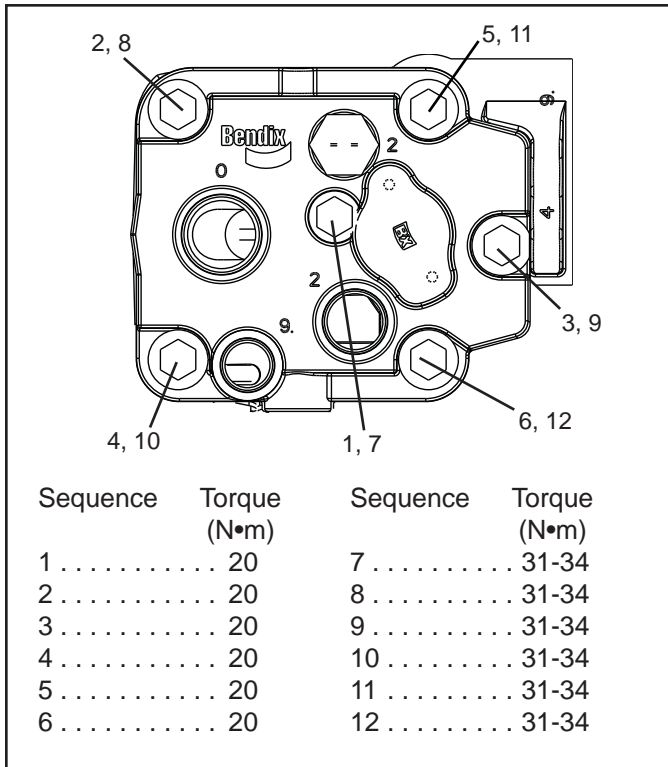

FIGURE 11 - CLOSED ROOM COMPRESSOR HEAD BOLT TORQUE SEQUENCE
6. Install the six hex head cylinder head bolts and washers and snug them (finger tight), then torque the bolts in the sequence specified in Figure 11. Note: A light film of oil should be applied to the thread of these bolts prior to installation. Oil should not be applied to any other bolts.